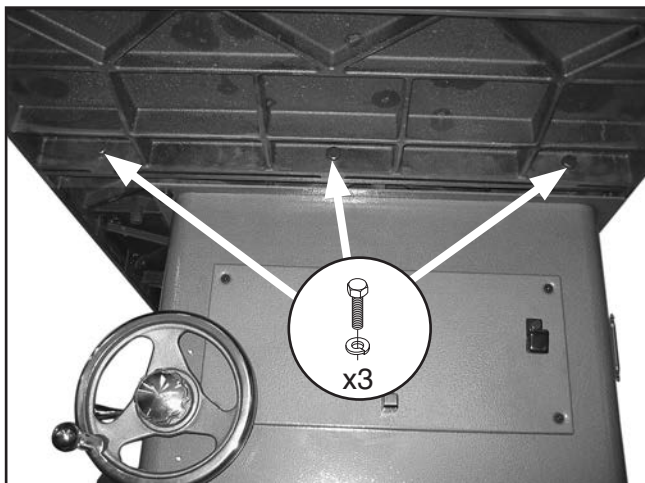

Figure 25. Extension wing installed.
4. Attach the cast iron wing to the main table with (3) M10-1.5 x 35 hex bolts and 10mm lock washers, as shown in **Figure 25**. Finger tighten for now.